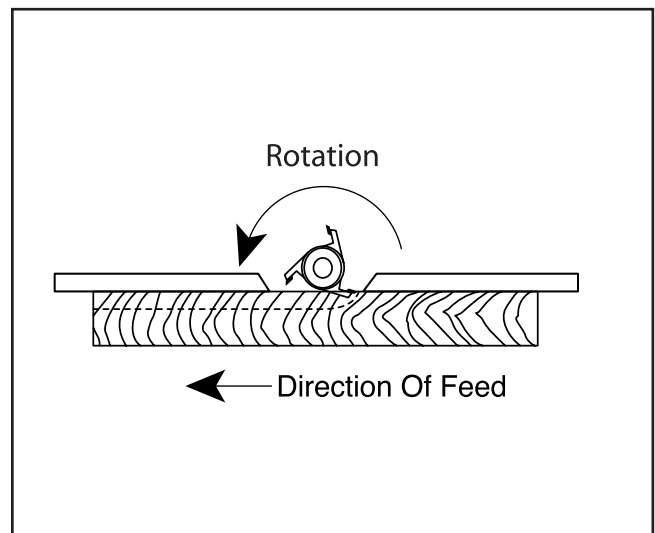

Figure 34. Fence adjustment for blind cuts.
4. Run a test piece through the shaper as shown in **Figure 34**.